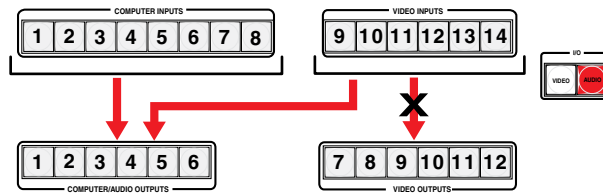

Figure 3-4 — Audio ties
- Audio ties can only be made to the computer video/audio group (outputs 1 through 6) (figure 3-4).